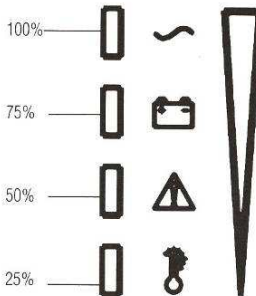

fig. 5: Percentage of Load or Percentage of Remaining Runtime Indicators
- See fig. 5 for determining % of remaining runtime.